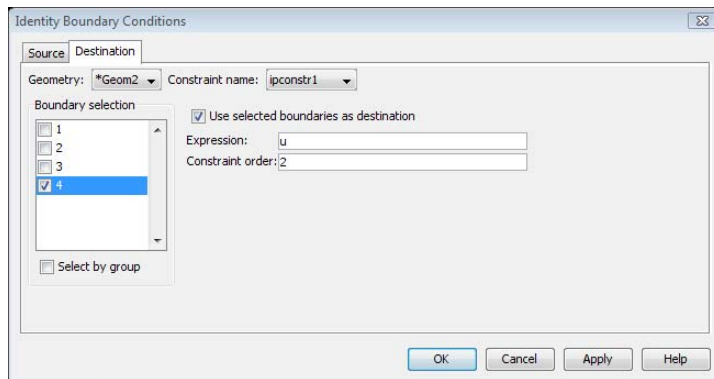

Figure 15-6: The Destination page in the Identity Boundary Conditions dialog box.
- 4 Click the **Destination** tab to define the destination domains. Select the destination geometry in the **Geometry** list. Then select the constraint that you want to specify in the **Constraint name** list. Select the check boxes for the appropriate domains such as Boundary 4 in Figure 15-6, for example. Finally specify the expression that becomes equal to the expression on the source domain for the corresponding constraint.